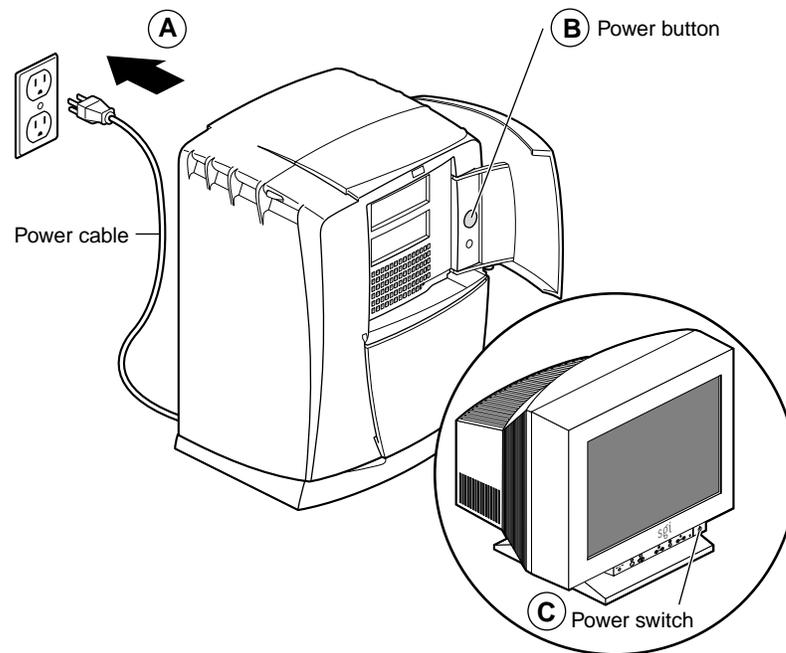

Figure 7-38 Powering on the Octane2 Workstation
1. Plug the power cable into a wall outlet (see A in Figure 7-38).
- Press the power button (B).
3. Press the monitor power switch (C) to turn on your monitor.